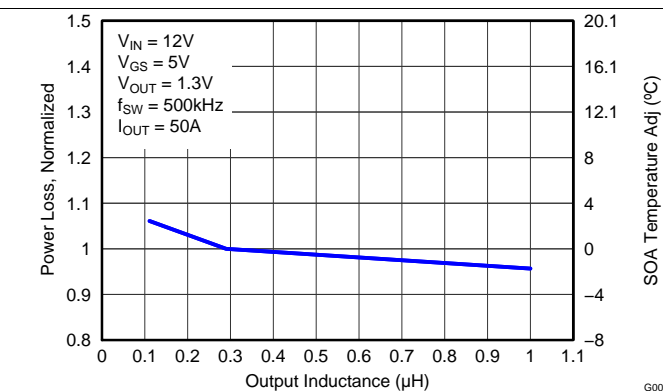

Figure 10. Normalized Power Loss vs Output Inductance
- Normalized power loss for output inductor ≈ 1.03 (Figure 10)
- SOA adjustment for output inductor ≈ 1.3°C (Figure 10)